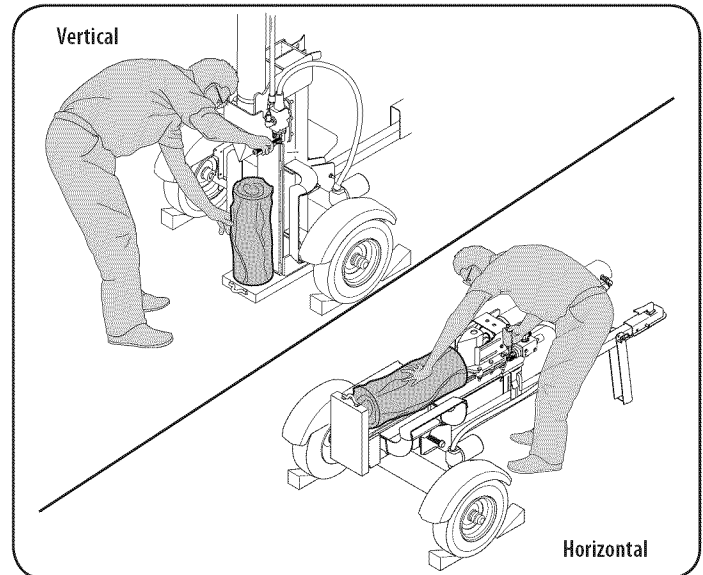

Figure 14
2. Block the front and back of both wheels. See Figure 14.
3. Stand in front of the log splitter to operate the control handle and to stabilize the log. See Figure 14.
2. Stand behind the reservoir tank to operate the control handle and to stabilize the log. See Figure 14.